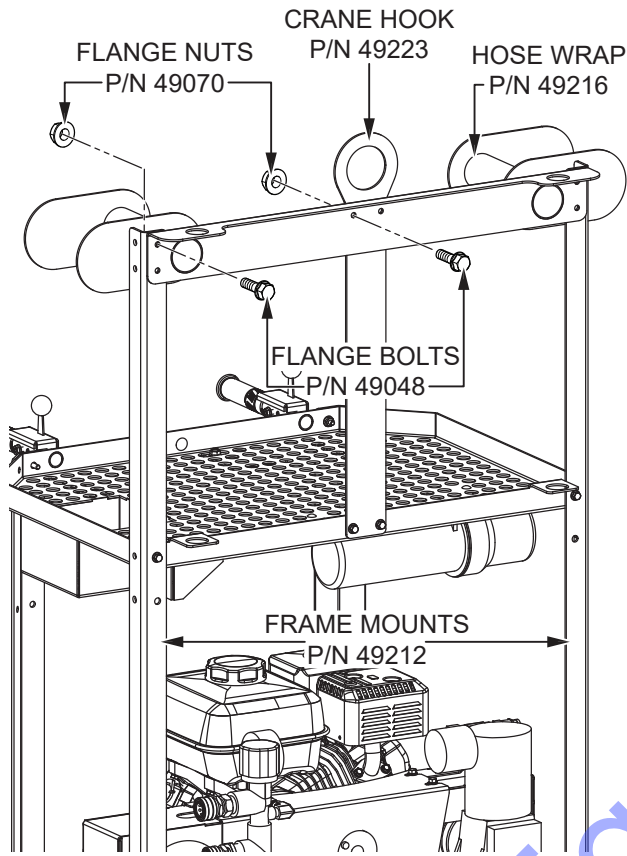

Figure 10. Hose Wrap Installation
- Secure the hose wrap (P/N 49216) to the front upright frame mounts (P/N 49212) and crane hook (P/N 49223) with six 1/4-20 x 3/4" flange bolts (P/N 49048) and six 1/4-20 flange nuts (P/N 49070). See Figure 10.